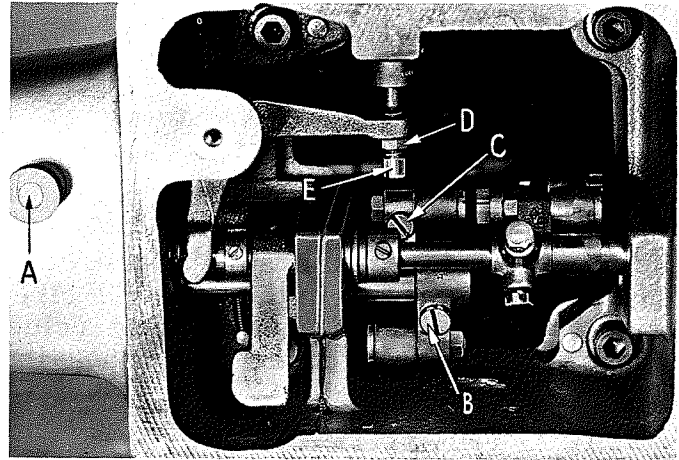
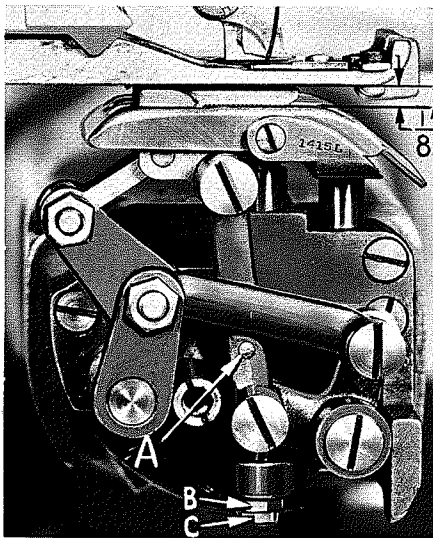
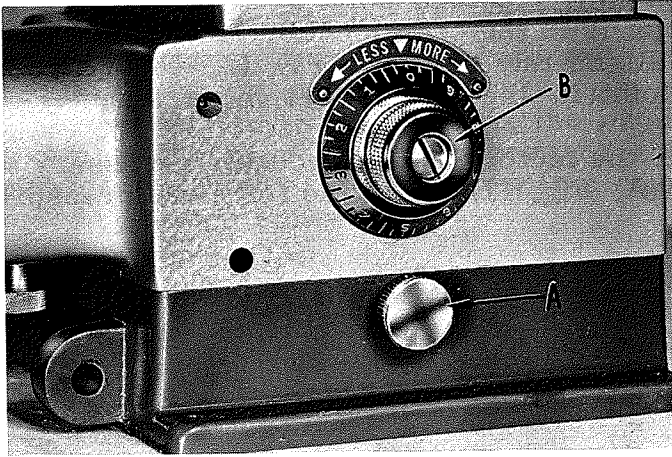
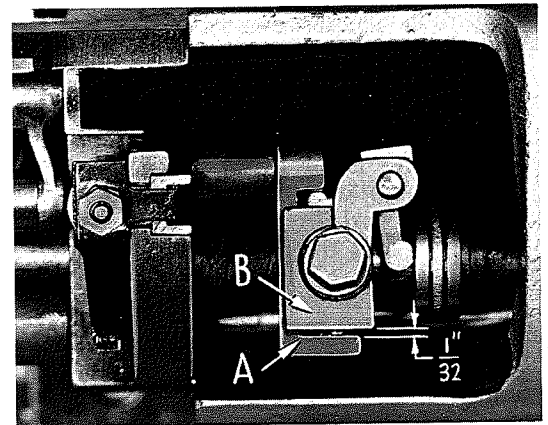

Fig. 11
Fig. 12
Fig. 13
Fig. 14
The feed plate pressure is adjusted at the factory. If it becomes necessary to change the pressure, turn knurled screw (A, Fig. 11) clockwise for more pressure and counterclockwise for less.
Turn the handwheel in operating direction until the feed point reaches its highest position and the feed plate reaches its lowest position. At this point, there should be 1/8 inch space between the top of the feed plate and the bottom of the presser foot (Fig. 12). To obtain this adjustment, loosen the machine base locking screw (A, Fig. 13) and lay the machine on its back. Then, loosen screw (B, Fig. 11) and hold link (A, Fig. 12) so that the feed point is pressed up against the bottom of the presser foot. Turn the handwheel in operating direction until the feed point reaches its most forward position, and retighten screw (B, Fig. 11).
Turn the handwheel in operating direction until the feed point first touches the presser foot. At this point, the front edge of the feed point should be aligned with the front edge of the knurling on the feed plate. To make this adjustment, loosen screw (C, Fig. 11), and by means of link (A, Fig. 12), move the feed point forward or backward as required. Retighten screw (C, Fig. 11). If, in this adjustment, the feed point has to be moved an appreciable distance, repeat the adjustment "Setting The Feed Point Height" in the previous instructions.
The height of the plunger is adjusted by turning the knob (B, Fig. 13) clockwise to raise the plunger and counterclockwise to lower it. To provide for the maximum plunger adjustment, there should be 1/32 inch clearance between plunger crank (A, Fig. 14) and the plunger block (B) when the adjusting knob (B, Fig. 13) is turned clockwise as far as it will go. Note that there are pins which stop the knob (B) after each complete revolution. The knob may be pulled out toward the operator to lift it over the stop. The knob can make three complete revolutions. To make the 1/32 inch adjustment, turn the knob clockwise as far as it will go. Loosen locknut (D, Fig. 11) and turn screw (E) in the required direction. Retighten nut (D). Setting is correct when the needle, on its stroke to the right, just clears
the top of the plunger, with the adjusting knob in the maximum clockwise position. If after initial setting, further adjustment of height is necessary, it can be accomplished by turning nut (B, Fig. 12) and locknut (C) up or down as required. Check the adjustment so that the needle does not strike the plunger.